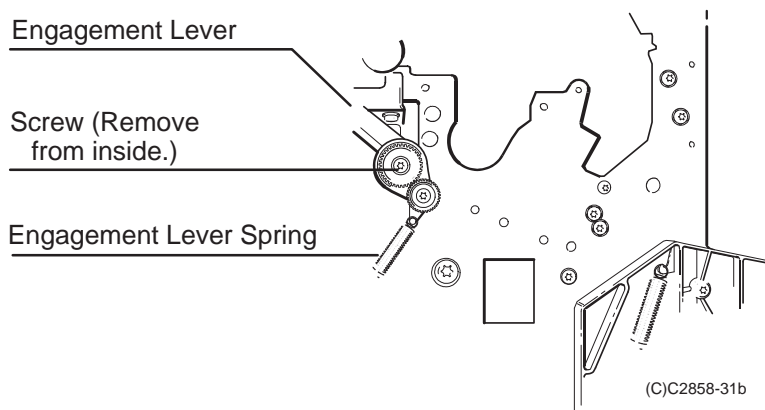

Figure 6-35.
7. Using needle-nose pliers, remove the engagement lever spring. See Figure 6-35.